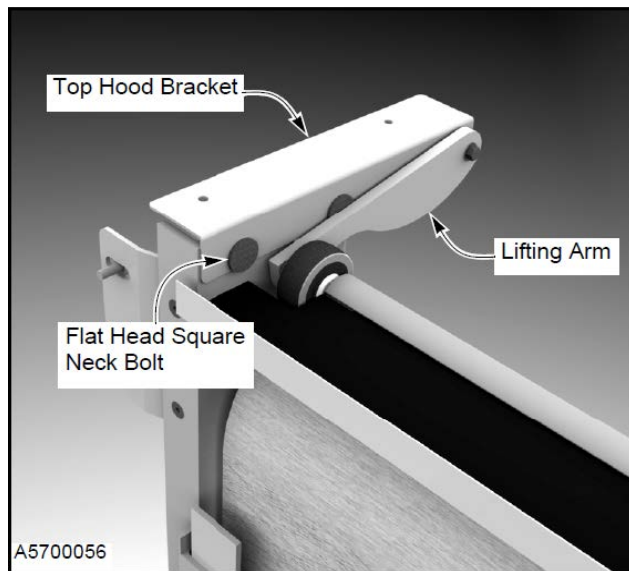

Figure 24
1. Install top hood bracket with two  $\frac{3}{8}$ -16 x 1.25 flat head square neck bolts,  $\frac{3}{8}$ -in. flat washers and  $\frac{3}{8}$ -in. hex serrated flange lock nuts. (See Figure 24)